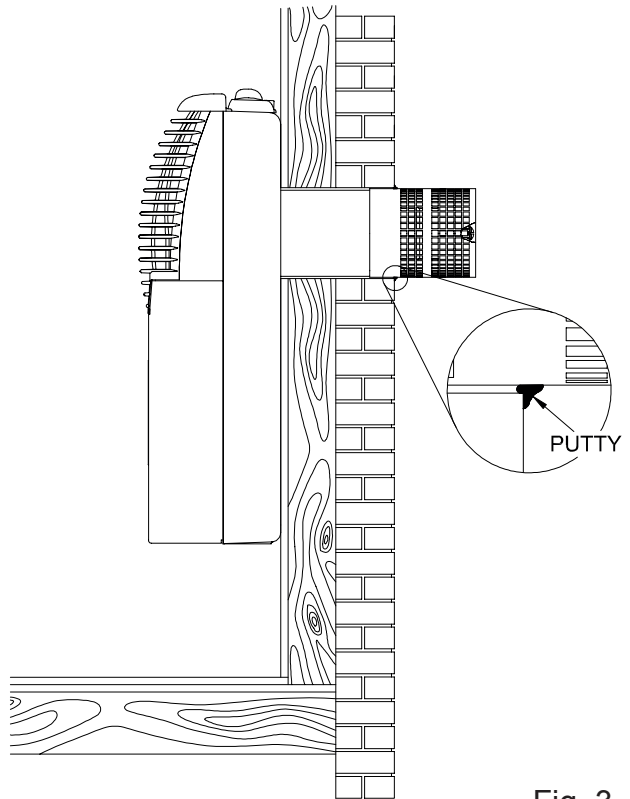

Fig. 3
1. Remove the front cover of the heater by removing the control knob and the two (2) screws on the top of the cover. To remove slide the front upwards.
- For models MDV8 and MDV12, secure to the wall with the three (3) screws and spacers.
- For model MDV20, secure to the wall with the four (4) screws and spacers provided.
4. Seal any imperfections between mounting plate wall and vent hood with putty, making sure that nothing falls inside the hood as shown in figure 3 on next page.